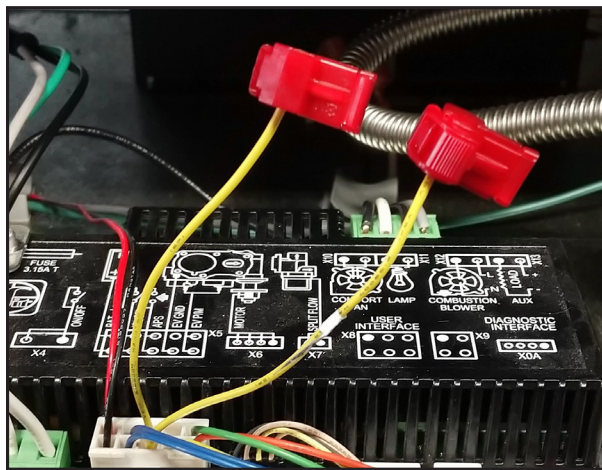

Figure 21: Pressure switch wire taps attached
d. Attach one of the supplied red wire taps to each of the cut leads as shown in Figure 21. Install the wire taps roughly 1/2" from the end of the leads. Make sure there is an audible click upon closing the wire taps.